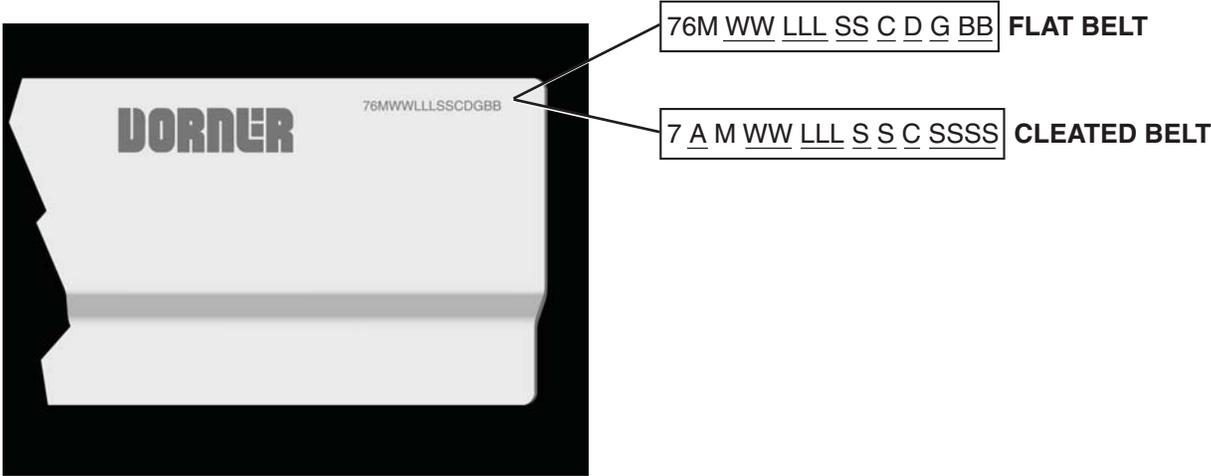

Figure 89
Refer to model number on the conveyor frame (Figure 89). From the model number determine the conveyor width (WW), length (LLL) and belt type (BB). Use data to configure belt part number as indicated below. *Add "V" for v-guided belts.
Refer to model number on the conveyor frame (Figure 89). From the model number determine the conveyor width (WW), length (LLL), cleat type (C) and cleat spacing (SSSS). Use data to configure belt part number as indicated below. *Add "V" for v-guided belts.